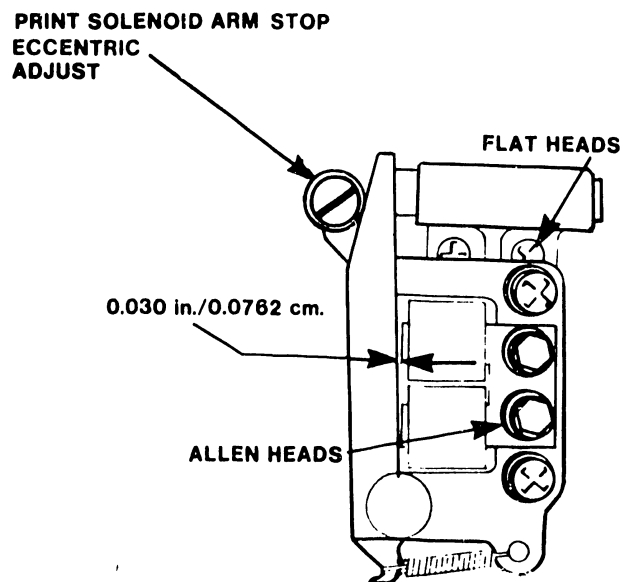

FIGURE 5-14 PRINT SOLENOID ARM TO-LAMINATION GAP
The gap between the print solenoid arm and the (bottom corner of the top) core of the coil laminations is 0.030 inch (0.0762 cm). See Figure 5-14. Use the .030/.060 pin guage (WL #726-9726) to measure the gap.
1. Loosen lock nut on the print solenoid arm stop eccentric (Figure 5-14).